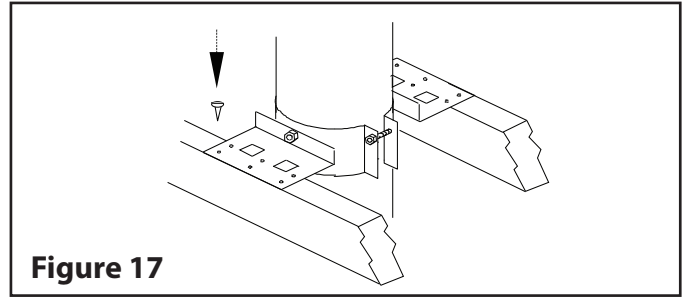

Figure 17
- Step 1. Install the roof radiation shields in the roof joists. These shields consist of four metal plates. Nail one plate to each side of the framing using (2) 2-1/2" nails.
- Step 3. Slip the assembled Roof Support down over the stainless steel chimney until its brackets rest on the roof or floor. Tighten the collar around the chimney, (see **Figure 17**).